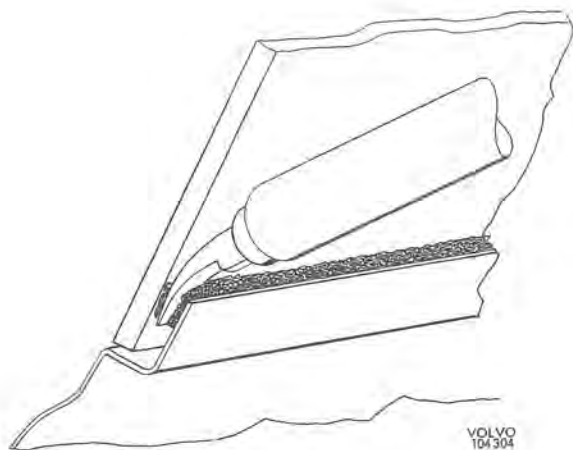

Fig. 8-26. Removing windshield
5. Cut the windshield loose with a warm soldering iron. Insert the point of the iron in between the windshield and the body, from the inside of the vehicle, see Fig. 8-26. Then draw the soldering iron all round the windshield. The windshield can now be pressed out by hand. Cut off any remaining strands with a knife.